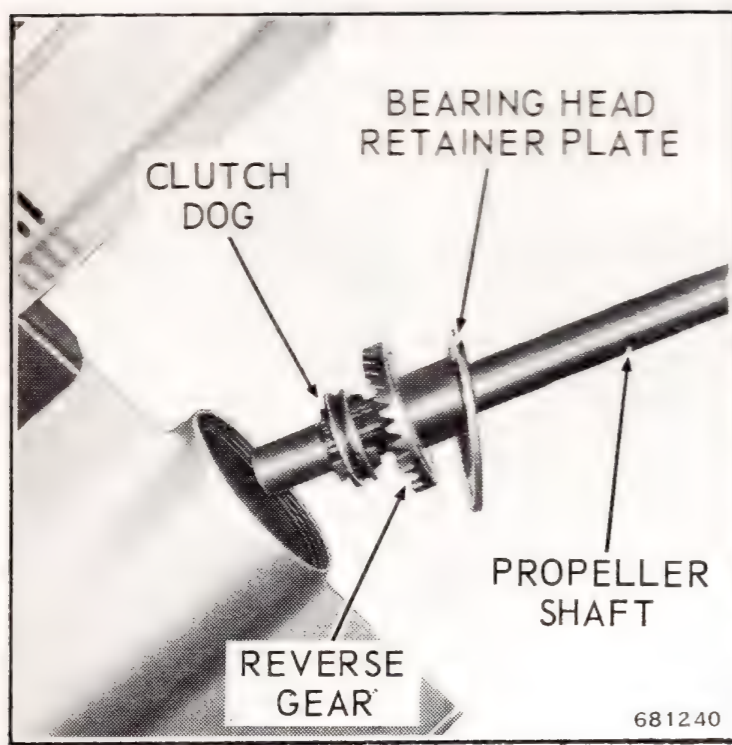

Figure 6-36. Installing Propeller Shaft
m. Assemble reverse gear and propeller shaft bearing housing retainer plate to propeller shaft. Insert propeller shaft and components into gearcase. See Figure 6-36.